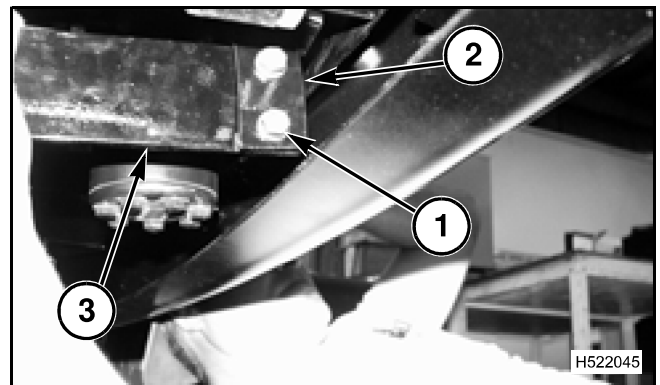

FIG. 85
FIG. 85: Put a narrow plain washer onto each of capscrews (1). Install the capscrews along with the narrow plain washers and hex flange self locking nuts securing the left (2) and right pedal weldments to the left (3) and right brake pedal arm weldments. Tighten the self locking nuts.